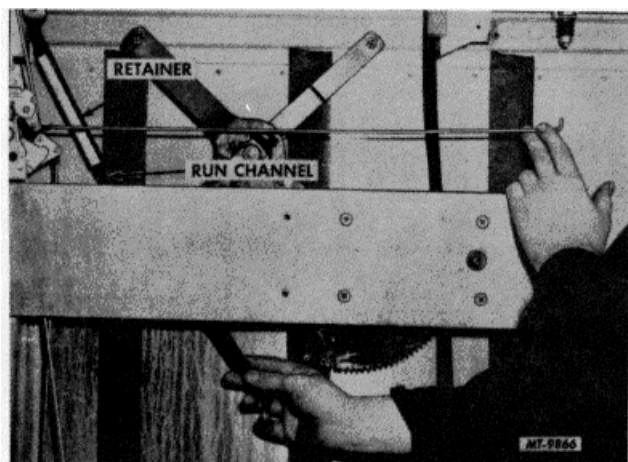

Fig. 15
2. Remove door glass rear run channel retainer, Fig. 15.